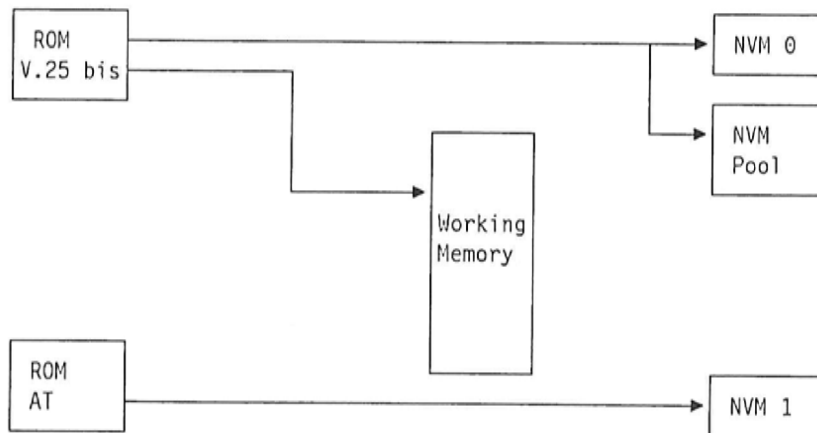

Figure 9-1. Factory Resets from the Front Panel
- Resetting the modem from the front panel (see "The First Setup Menu" on page 6-12). This resets the nonvolatile memory profiles and working memory to factory settings. The modem is configured exactly the same way as when it was first removed from its shipping box. This Reset to Factory is outlined in Figure 9-1.